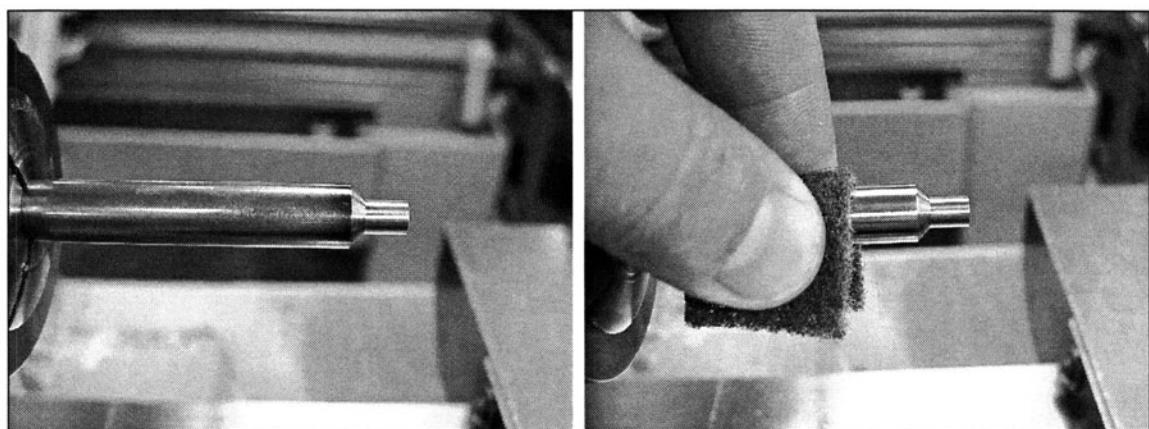

FIGURE 6-26 Scotch-Brite® is being used to remove discoloration from this core pin.
38. *Use Scotch-Brite® to remove rust and other contaminants. (See Fig. 6-26)*